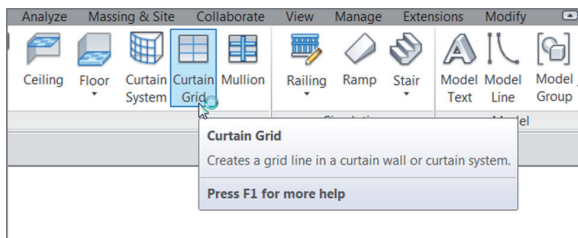

FIGURE BC1.30: Click the Curtain Grid button on the Build panel of the Architecture tab.
1. On the Build panel of the Architecture tab, click the Curtain Grid button, as shown in Figure BC1.30.